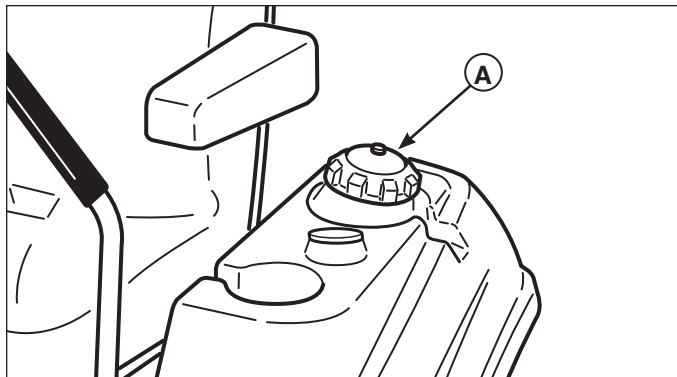

Figure 33. Adding Fuel
1. Remove the fuel cap (A, Figure 33).